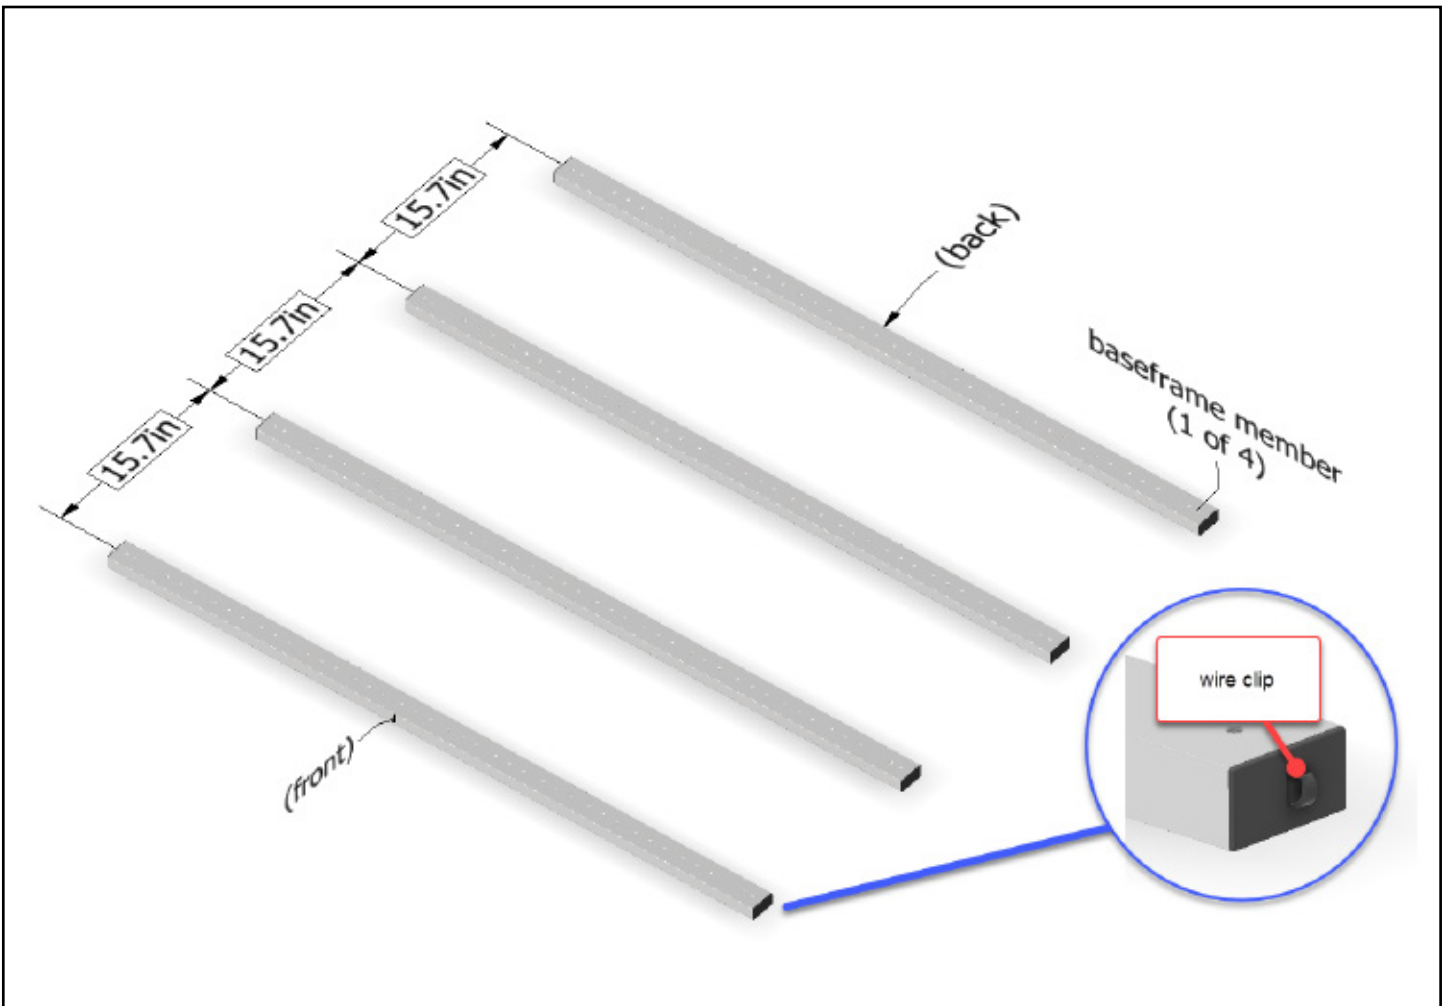

Figure 1-1
1. Position the four baseframe members horizontally across your table about 15.7 inches apart, center to center. See **Figure 1-1**.